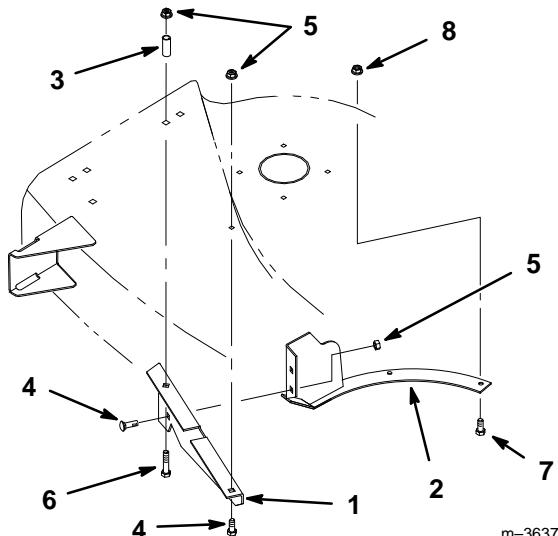

Figure 7
4. Attach the rear grass baffle to the grass ring with (2) 5/16 x 7/8" (22 mm) carriage bolts and (2) 5/16" locknuts (Fig. 7).
5. Install the rear grass baffle and grass ring inside the discharge chute area. Secure the rear grass baffle to the mower with a 5/16 x 7/8" (22 mm) carriage bolt and a 5/16 x 2-1/2" (64 mm) carriage bolt. Add the latch tube above the deck and secure with (2) 5/16" locknuts. Secure the grass ring to the mower with (2) 1/4 x 3/4" (19 mm) bolts and (2) 1/4" locknuts (Fig. 7).